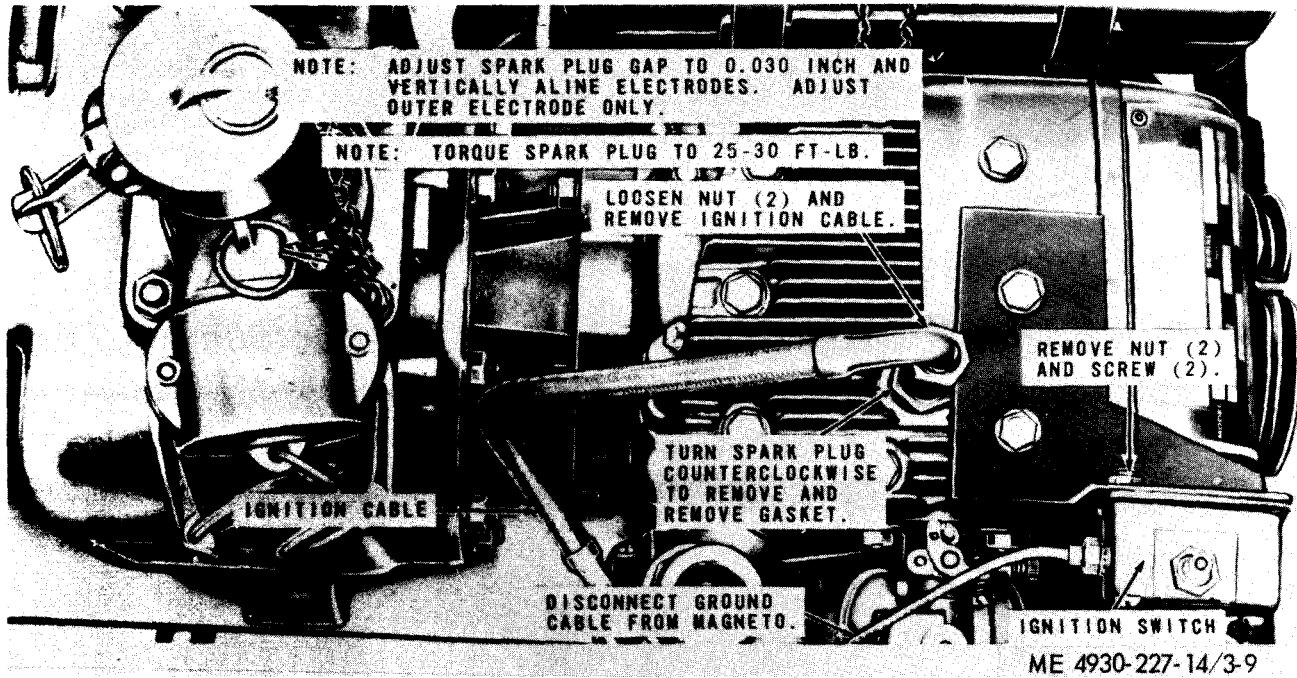

Figure 3-9. Spark plug, ignition cable, ignition switch, and ground cable, removal and installation.
a. Removal. Refer to figure 3-9 and remove the ignition cable, ground cable, spark plug, and ignition switch.
(1) Clean all metal parts with an approved cleaning solvent and dry thoroughly.
(2) Inspect for cracks, breaks, signs of deterioration, and other damage. Replace a defective part.
(3) Inspect all threaded parts for damage. Replace a defective part.
c. Installation. Refer to figure 3-9 and install the ignition cable, spark plug, ignition switch, and ground cable.